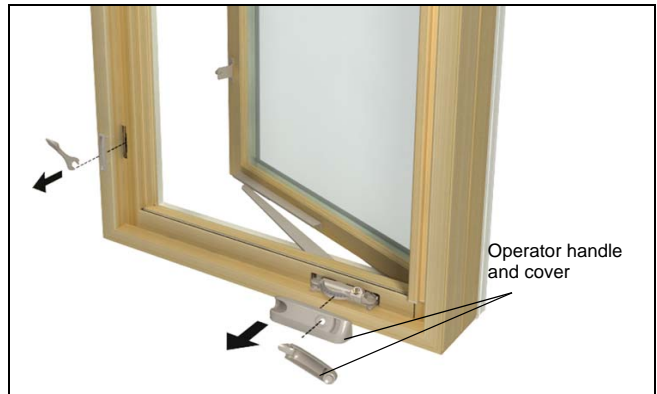

Figure 6
2. Unlock and open the sash. See figure 6.
3. Using a small flat screwdriver, remove the operating handle and handle cover. Grasp the lock handle and pull firmly outward to remove. Detach the top of the lock escutcheon first then the bottom should be carefully removed. See figure 6.